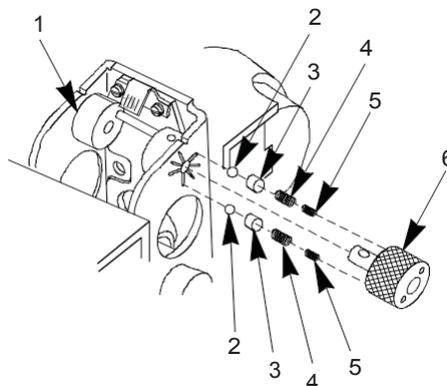

Figure 19. Elevation Knob Assembly, Elevator Assembly, Ball Detents, Plungers, Detent Springs
28. Separate elevation knob assembly (Figure 19, Item 6) from elevator assembly (Figure 19, Item 1). Separate and discard two ball detents (Figure 19, Item 2), two plungers (Figure 19, Item 3), two detent springs (Figure 19, Item 4) and two detent springs (Figure 19, Item 5), from elevation knob assembly (Figure 19, Item 6).